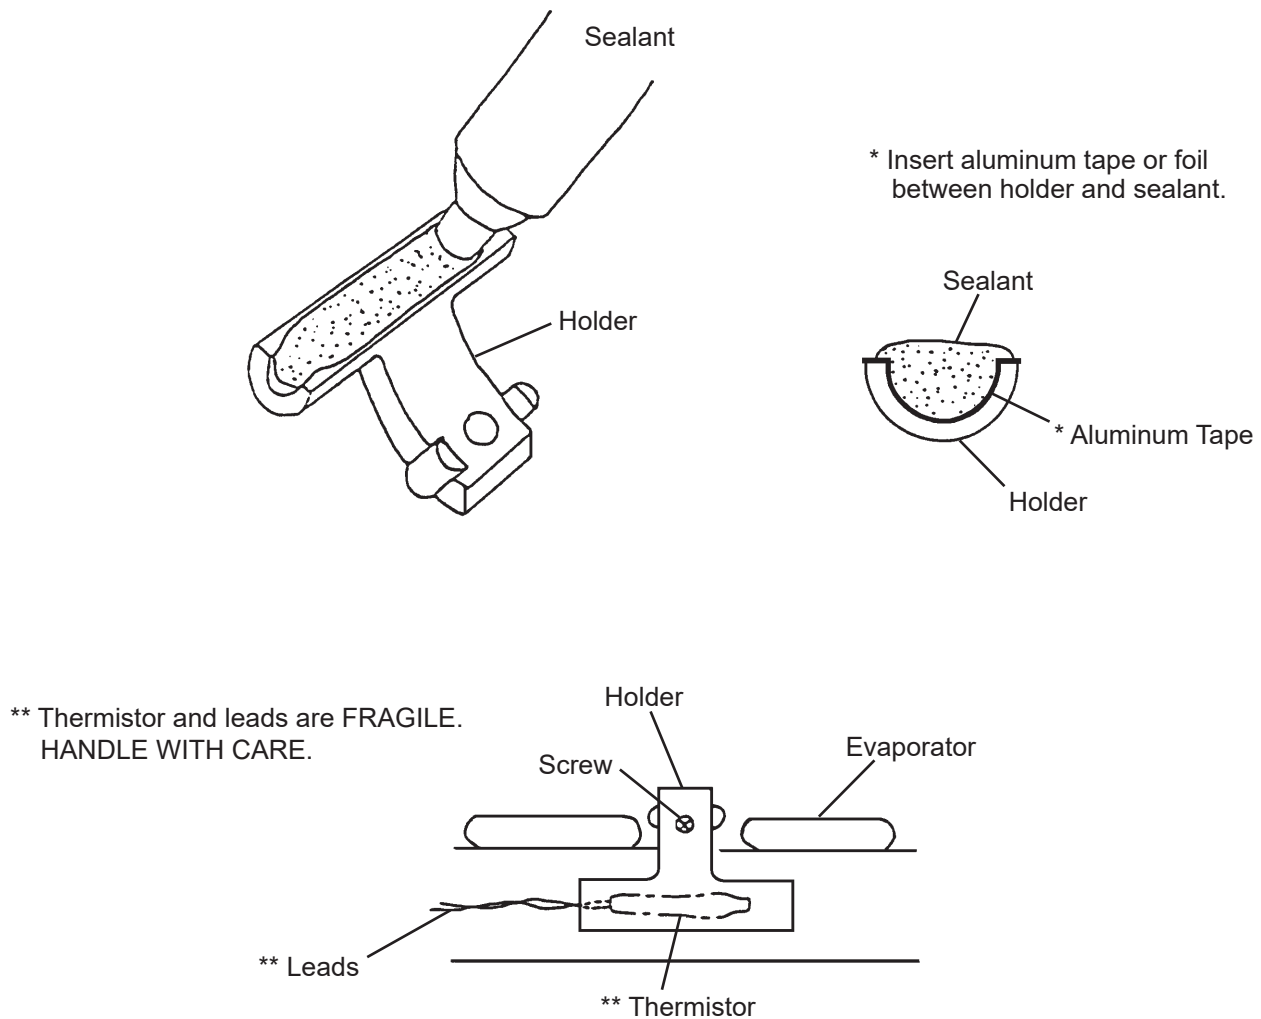

**Fig. 13**
- 5) Install the new thermistor in the reverse order of the removal procedure, by using a sealant (high-thermal conduct type). Fig. 13.